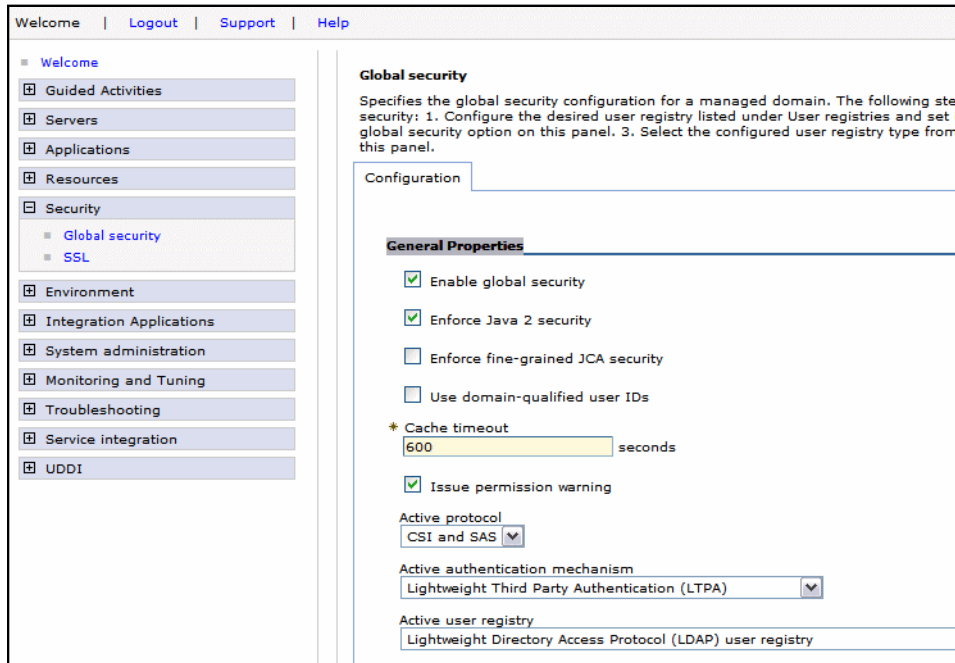

Figure A-34 Enable security: Global security settings
- ▶ Click *OK* twice to return to the main *Global security* panel (Figure A-34).